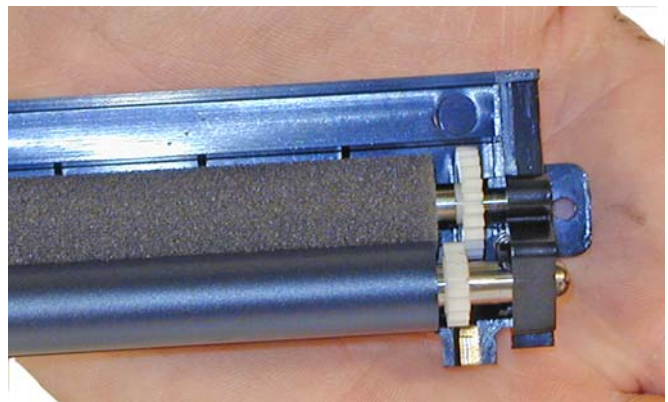

Figure 47
40) On the PCR assembly, gear side, move the PCR drive gear so that it no longer meshes with the cleaning roller drive gear. See **Figure 47**